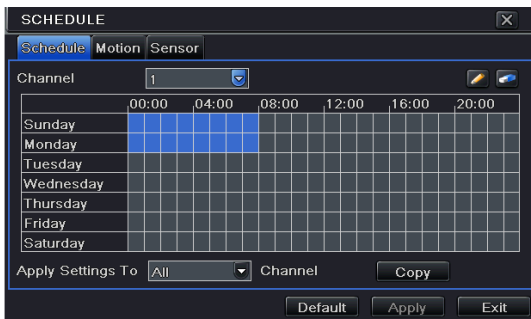

Fig 4-15 Schedule Configuration-Schedule
Step1: Enter into Menu→Setup→Schedule tab. Refer to Fig 4-15.